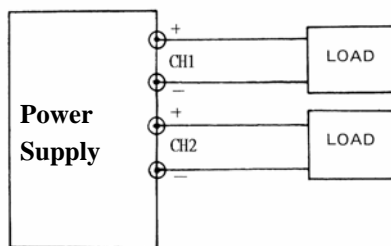

Fig. 5-2 Independent Operation
- F. Fig.5-2 illustrates the connection procedure.